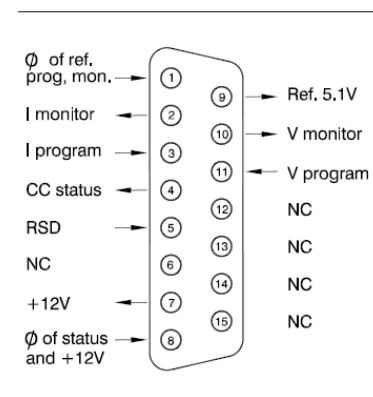

fig 4 - 8 Connections analog programming connector.
- To avoid overheating the output capacitors, the AC component of the load current should be limited (fig. 4 - 9).